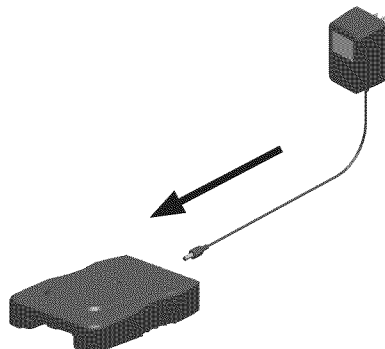

Figure 1 - Plug Charger into Base
1. Plug cord from charger into charger base (see Figure 1).